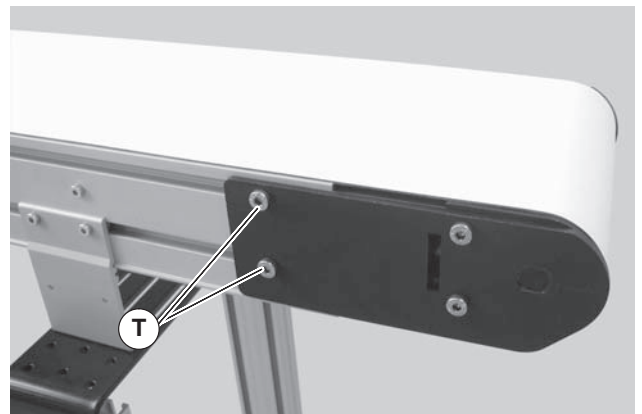

Figure 33
4. Re-tighten the head plate fastening screws (Figure 33, item T) with a 5 mm hex-key wrench to 146 in-lb (16.5 Nm).